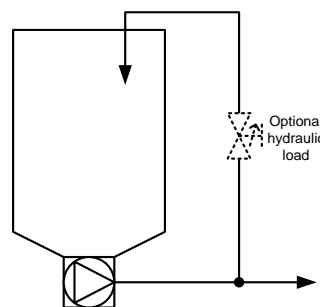

Figure 5: Bypass flow with T-union
- Bypass flow with T-union (Figure 5) \Rightarrow lower pump flow for process
- Bypass flow with mixing jet (Figure 5) \Rightarrow higher homogenization in tank or lower time to homogenize a batch